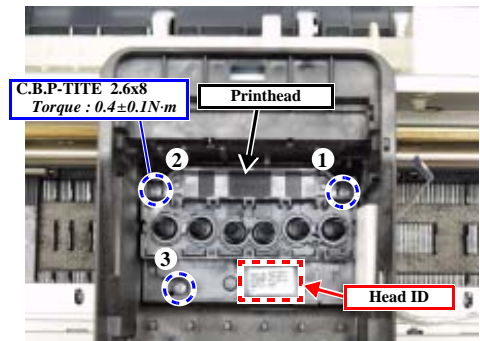

Figure 4-32. Removing the Printhead
- 10. Remove the screws (x3) securing the Printhead. (Fig. 4-32)
- When installing the Printhead, tighten the screws in the specified order. (Fig. 4-32)